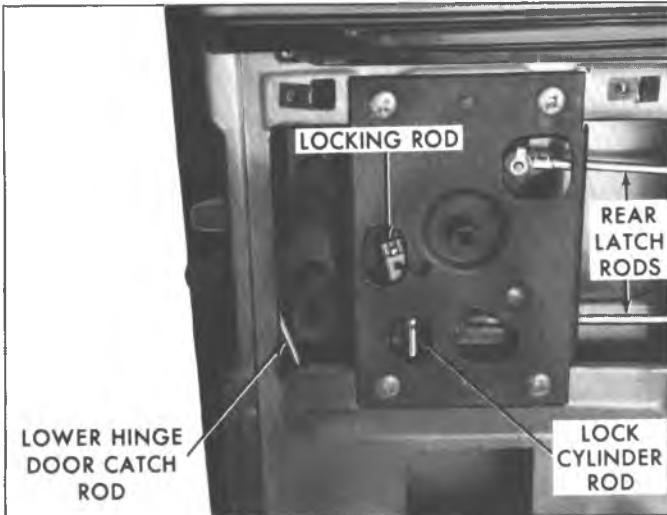

Fig. 21G—Sliding Door Front Latch
4. Disconnect the following rods from latch. See figure 21G.
3. Disconnect rear latch rods from front latch assembly. See figure 21G.